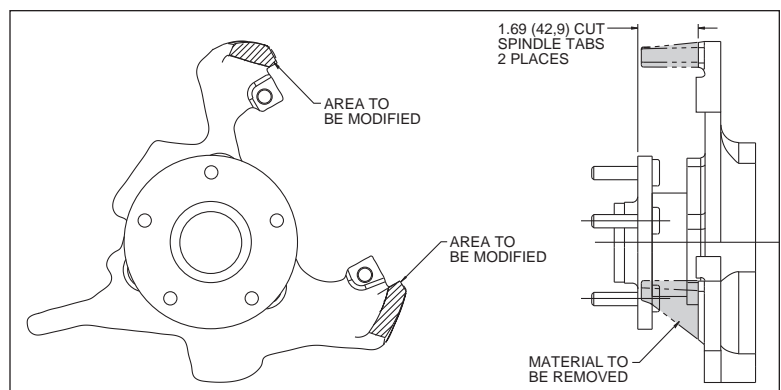

Figure 2. Spindle Modifications
- Before any tear-down or disassembly begins, modifications are required to the stock spindle. These include removing the original equipment caliper slides from the stock spindle that will interfere with the assembly of the Wilwood disc brake kit. It is recommended that these modifications be performed by a qualified machine shop. Please refer to the modification procedure and Figure 2 below.
- These modifications should be performed by a qualified machinist. Refer to Figure 2, right. Only one view of the spindle is shown, but the modifications need to be performed on both spindles.